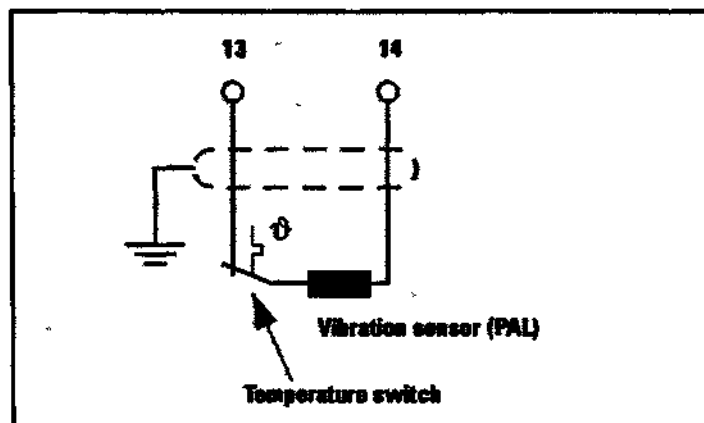

Figure 4.4
- ☞ Connect the two black wires of the connection cable for the temperature switch and/or vibration sensor to binding posts 13 and 14 (see Figure 4.4).